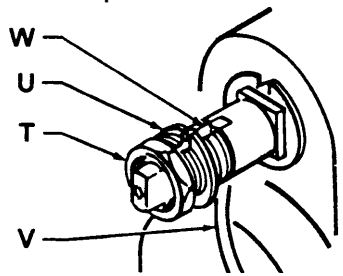

Fig 1
NOTE: Reference numbers and letters in parentheses in the text refer to the Typical Installation, Fig 1, 2, and Parts Drawing.
Connect a ground wire to pump air motor. Loosen grounding lug locknut (T) and washer (U). Insert one end of a 12 ga (1.5 mm²) minimum ground wire (V) into slot in lug (W) and tighten locknut securely. See Fig 1.